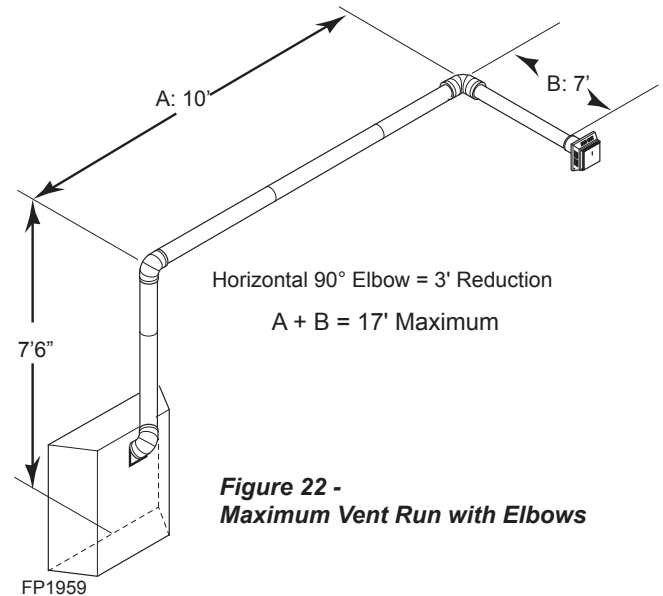

Figure 22 -
- If a 90° elbow is used in the horizontal vent run (level height maintained) the horizontal vent length is reduced by 36" (914 mm) *Figure 22*. This does not apply if the 90° elbows are used to increase or redirect a vertical rise. *Figure 23*
In *Figures 22 and 23*, Dimension A plus B must not be greater than 17' (5.2 m).